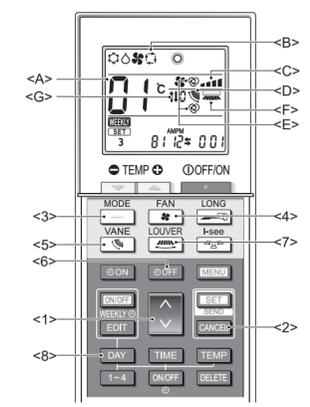

Fig. 5-2
1) Operation mode setting (Fig. 5-2) (The factory setting is "Cool/Dry/Auto/Fan/Heat" [Setting number 01].)
2) Fan speed setting (Fig. 5-2) (The factory setting is "4 speeds" [Setting number 01].)
3) Airflow direction setting (Fig. 5-2) (The factory setting is "With vane, swing" [Setting number 01].)
4) Auto fan speed and airflow direction display setting (Fig. 5-2) (The factory setting is "With auto fan speed and airflow direction" [Setting number 02].)
5) Louver display setting (Fig. 5-2) (The factory setting is "Without louver" [Setting number 01].)
- Press the **DAY** button <8>. (Fig. 5-2)
- Press the **PAIR** button <1> to select the setting number <A>. (Fig. 5-2)